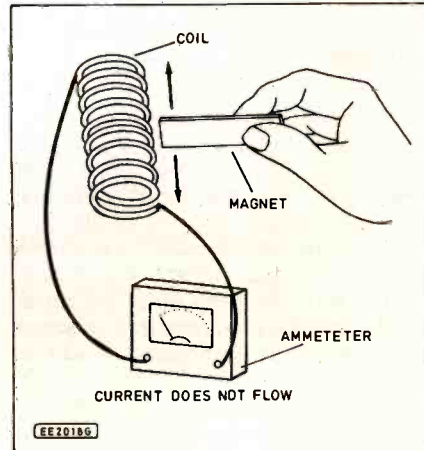

Fig. 9.10. The lines of flux must cut across the conductor to induce an e.m.f.
- The conductor must cut across (the conductor or the field or both can be in motion) lines from flux before an e.m.f. is induced in the conductor. If the lines of flux are parallel with the turns in the coil, as shown in Fig. 9.10, the conductor is not "cutting across" the flux lines.